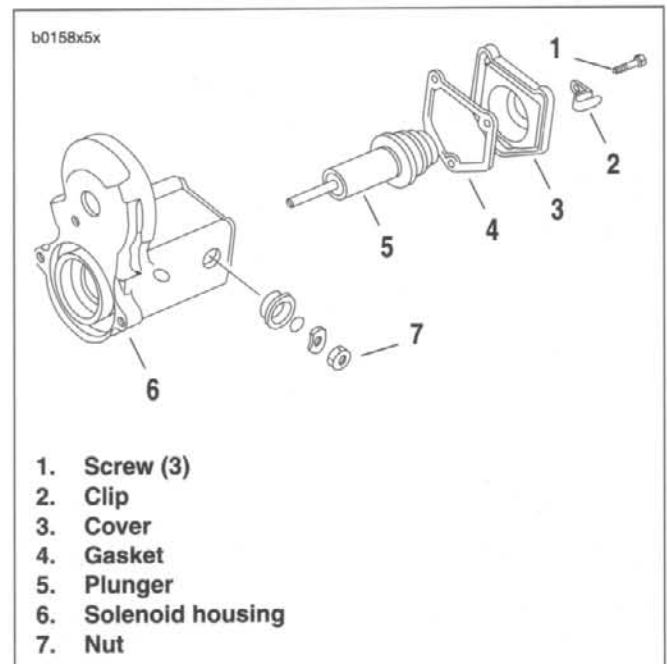

Figure 5-27. Starter Solenoid
See Figure 5-27. Do not tighten nut (7) without removing items 1-5. Movement will cause damage to the contact.
1. See Figure 5-27. Remove screws (1) and clip (2).
2. Remove cover (3) and gasket (4). Discard gasket.
3. Remove plunger (5) from solenoid housing (6).
1. See Figure 5-27. Replace wire connection hardware as necessary.
2. Install plunger (5) in solenoid housing (6).
3. Install **new** gasket (4) onto cover (3).
4. Position cover with gasket onto solenoid housing. Install clip (2) and screws (1).